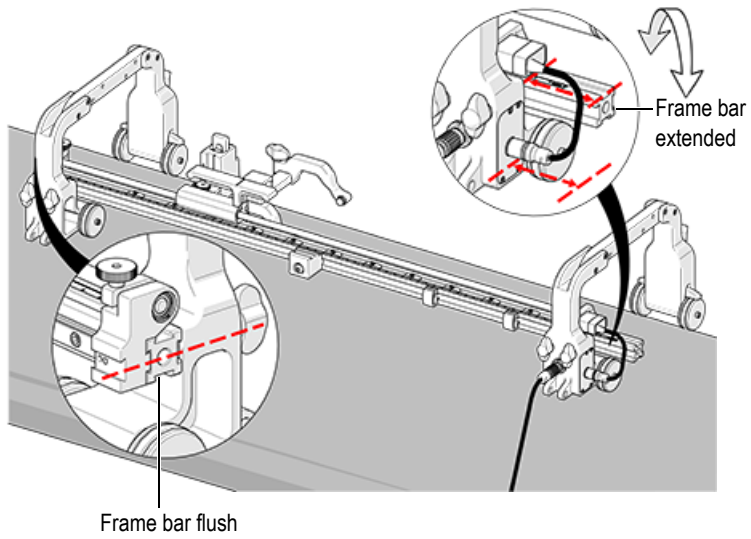

Figure 2-11 Setting the frame bar
5. Ensure the frame bar extends past the corrosion link on the encoder side (see Figure 2-11 on page 41).